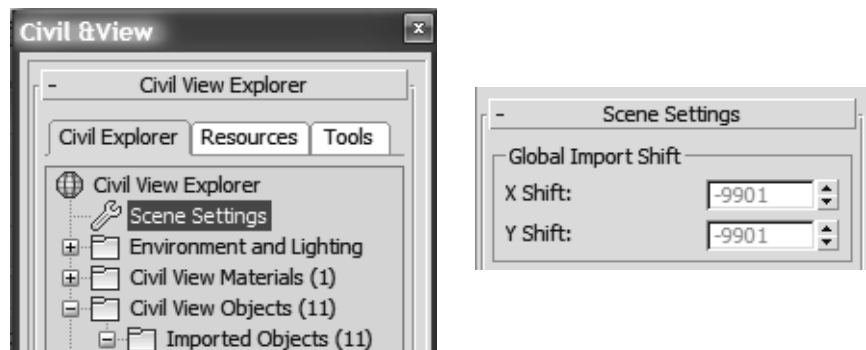

Figure 3-28
2. In the Civil View Explorer, select **Scene Settings**, as shown on the left in Figure 3-28. In the Scene Settings rollout, note the *Global Import Shift* values for *X Shift* and *Y Shift* (-9901), as shown on the right in Figure 3-28. You will use these values to move the linked .DWG file. Close the Civil View Explorer.